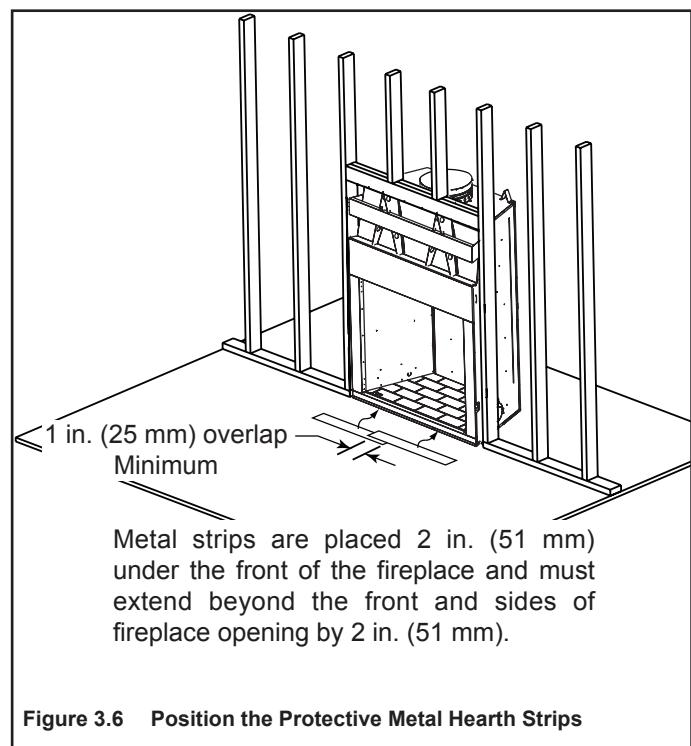

Figure 3.6 Position the Protective Metal Hearth Strips
- Metal strips must extend beyond the front and sides of the fireplace opening by at least 2 in. (51 mm), Figure 3.6.